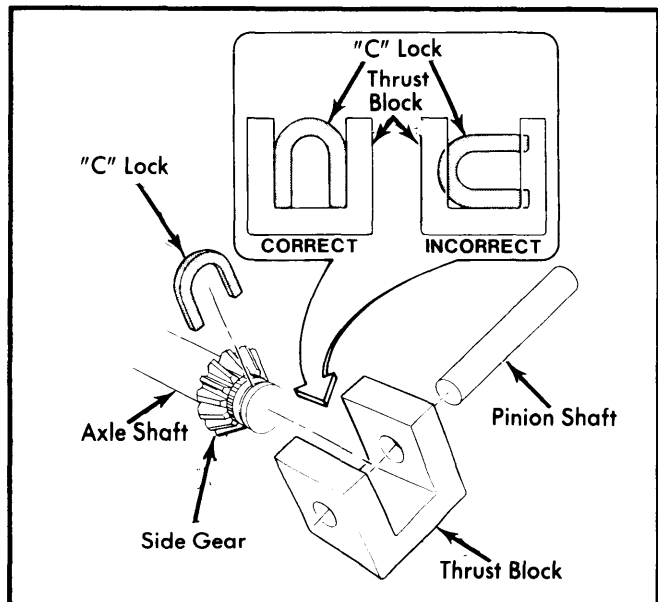

Fig. 3 View Showing Correct Positioning of "C" Lock for Removal
5) Reach into case with screwdriver and rotate "C" lock until open end points directly inward. When "C" lock is correctly positioned, axle shaft can be pushed inward, allowing "C" lock to be removed. Remove axle shaft. See Fig. 3.
2) After installing axle shaft and "C" lock, pull axle shaft outward so "C" lock seats in side gear counterbore. On models equipped with Eaton positive traction differential, make sure "C" lock is correctly positioned in thrust block. See Fig. 3.